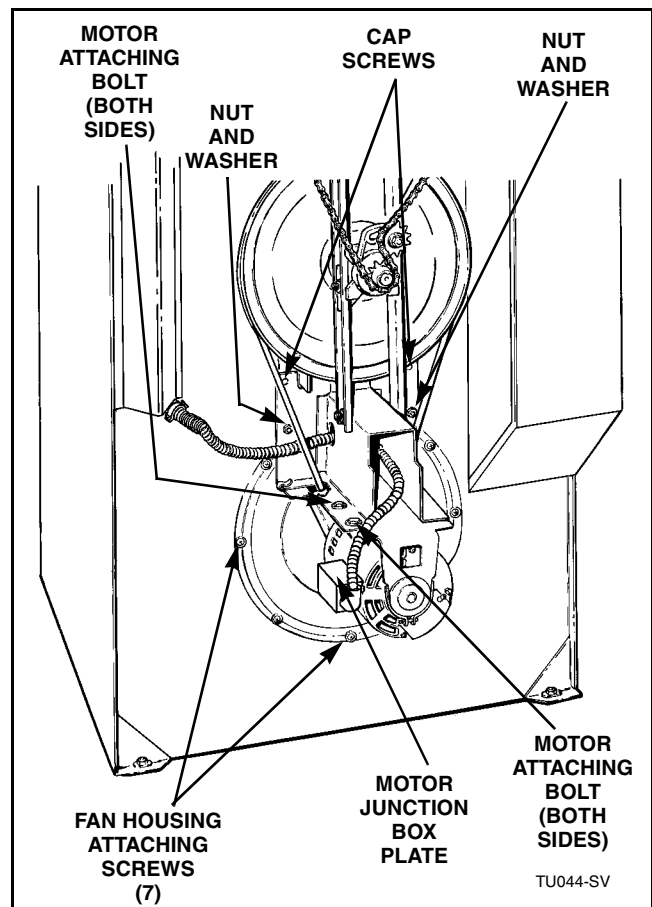

Figure 45
- g. Remove seven fan housing attaching screws. Refer to *Figure 45*.
- h. Remove the two capscrews and two sets of nuts and washers holding motor bracket to rear of tumbler cabinet. Refer to *Figure 45*.
- l. Remove four sets of nuts, washers and bolts holding mounting bracket to motor. Refer to *Figure 45*.